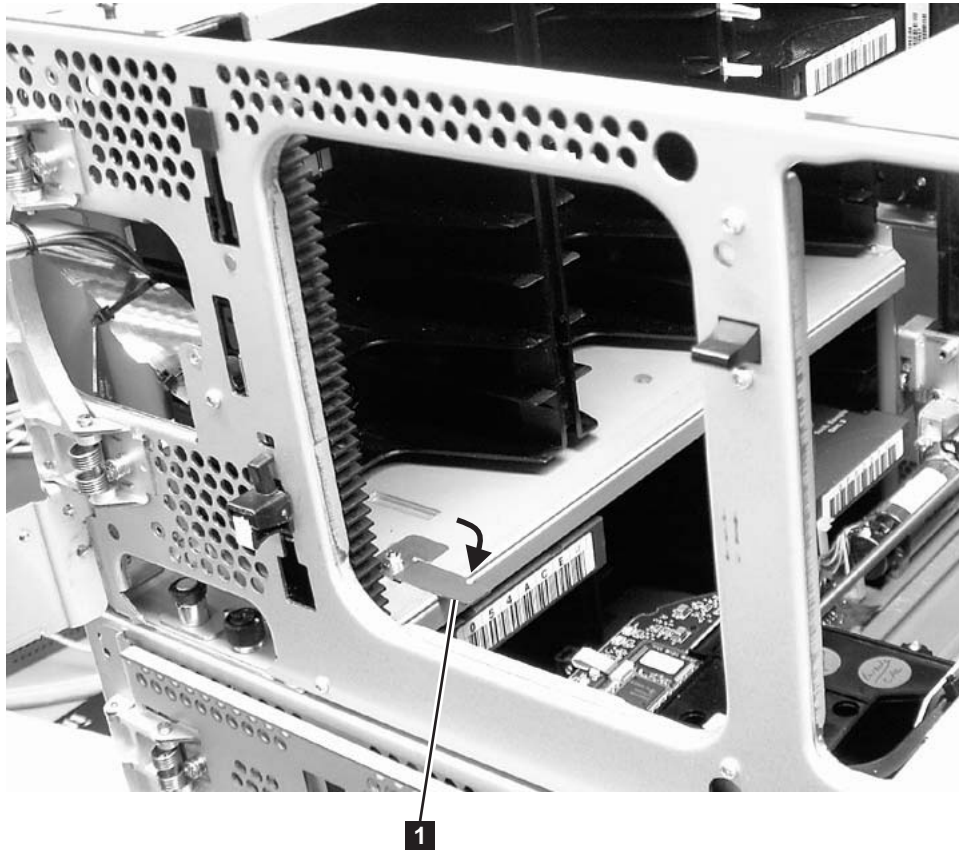

Figure 8-1. Picker locking mechanism
- b. Engage the Picker locking mechanism (**1** in Figure 8-1).
13. Gently push the Picker assembly up high enough to release the Picker locking mechanism (see **1** in Figure 8-1 on page 8-5).